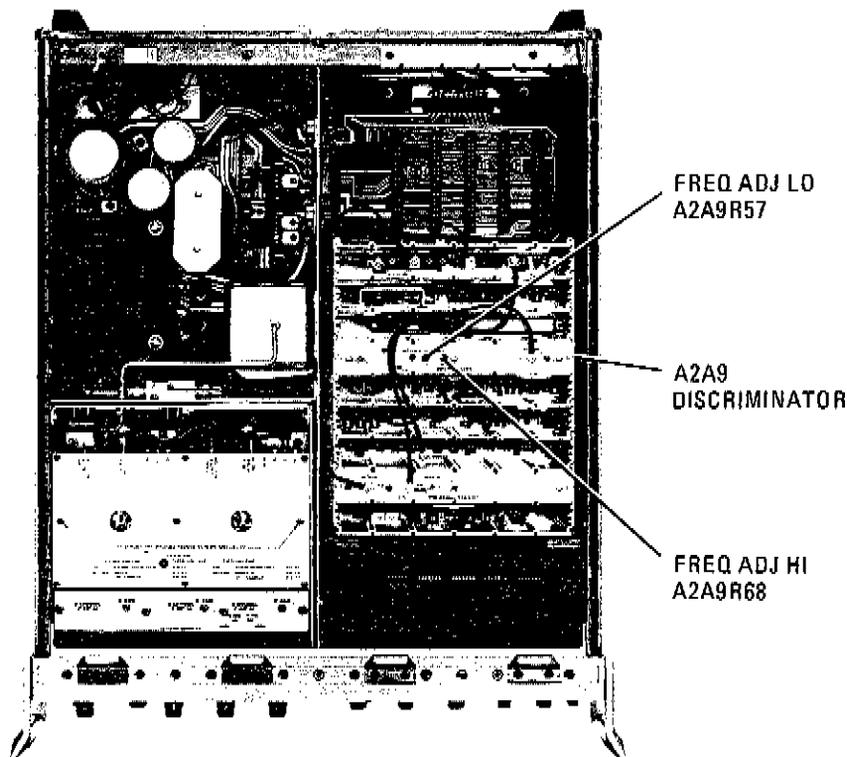

Figure A5-16. A2A9 Discriminator Adjustment Locations
- c. Adjust "FREQ ADJ HI" control A2A9R68 for (10) 0.000 MHz ± 0.2 MHz indication on FREQUENCY COUNTER digital readout (See Figure A5-16).